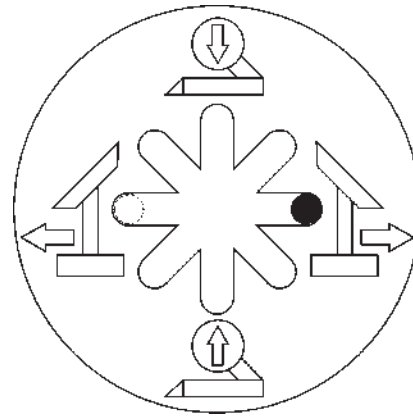

Fig. 7
D. Move the 8-position switch to the right (Fig. 7) to move the tool holder carriage to the outside. Operate the switch to the left to move the carriage towards the inside.